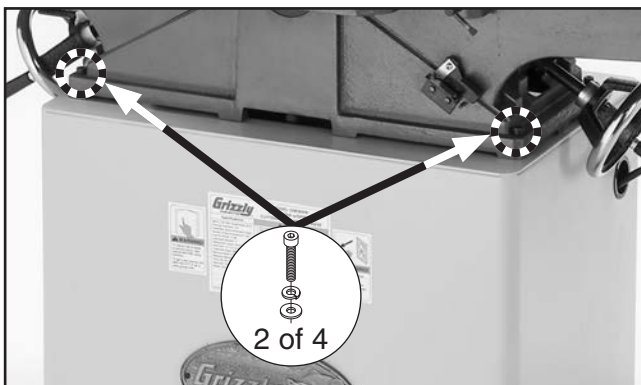

Figure 12. Jointer secured to stand.
2. Lift jointer and secure to stand with (4) M8-1.25 x 40 cap screws, (4) 8mm lock washers, and (4) 8mm flat washers (see **Figure 12**).